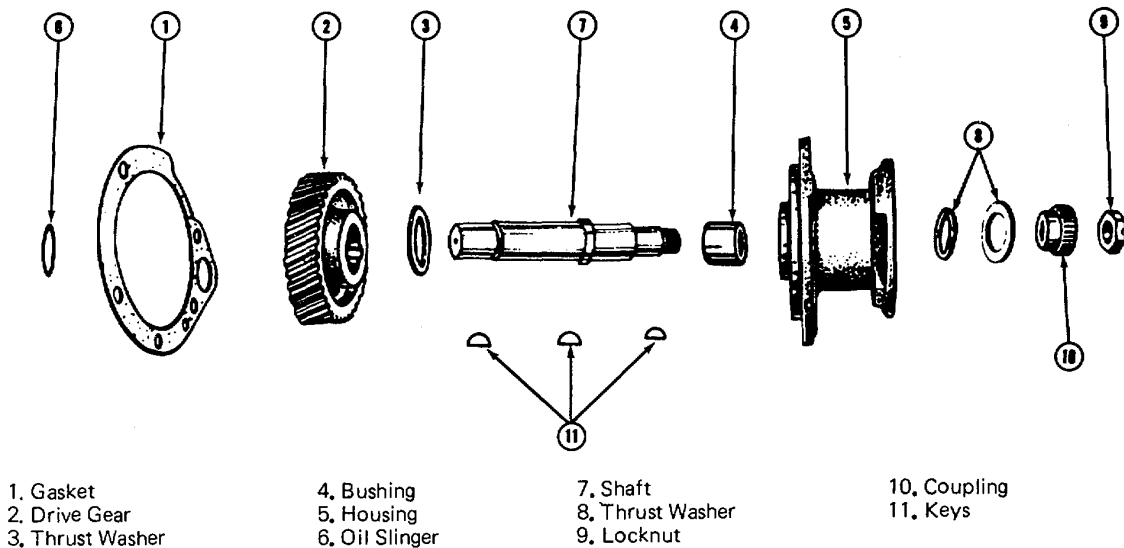

Fig. 9-1, (N10903). Fuel pump or compressor drive
7 (Fig. 9-1)	Shaft
4 (Fig. 9-1)	Bushing
1. Remove drive shaft locknut (9, Fig. 9-1), using ST-850 or ST-1249 Coupling puller, pull coupling (10) from shaft (7).